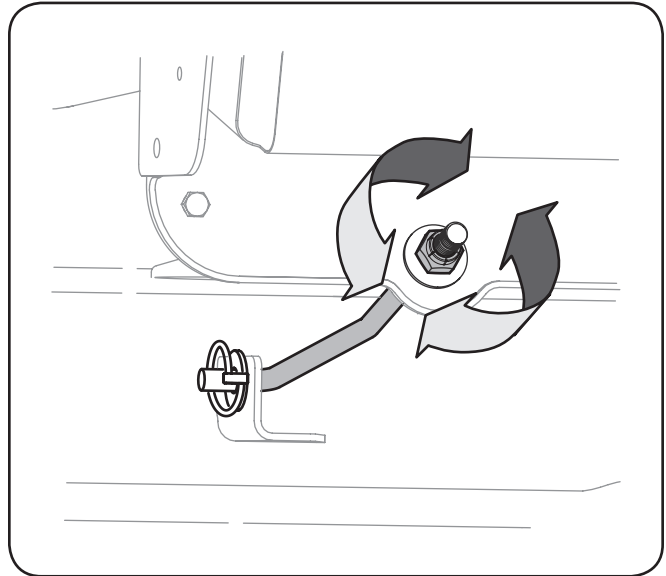

Figure 6-5
1. To *raise* the front of the deck, tighten (thread inward) the hex nut against the front hanger bracket. See Figure 6-5.
2. To *lower* the front of the deck, loosen (thread outward) the hex nut, away from the front hanger bracket. See Figure 6-5.